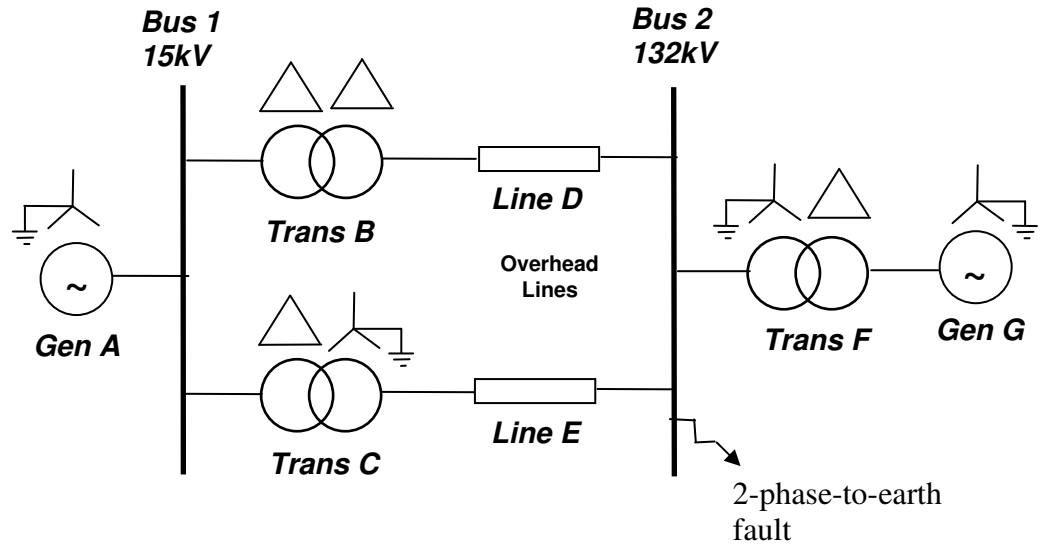

Figure 4.1 Line diagram of power system
- (i) Determine the power-load angle equation for the system and the load angle of the generator. (3)
- (ii) When a 3-phase short-circuit occurs at the middle of one of the overhead transmission lines, between  $P$  and  $Q$ , the effective system reactance becomes  $j1.2$ pu. Determine the power-load angle equation for the system under fault conditions. (1)
- (iii) The short-circuit is then cleared by the simultaneous opening of the circuit breakers,  $P$  and  $Q$  at each end of the faulted line. Determine the new power-load angle equation for the system. (1)
- (iv) Sketch the power transfer curves for before, during, and after the fault. Mark on the sketch the accelerating area, decelerating area, and the critical clearance angle. (4)
- (v) By deriving an analytical expression or otherwise, determine the critical load angle at which the fault must be cleared in order to ensure system stability. (5)
- c. Explain briefly how the transient stability of the power system could be improved. (2)
4. Figure 4.1 shows a single line diagram of a power system in which both the generators operate at rated voltage. Generator A is directly connected to a 15kV busbar, *Bus 1*, which supplies a pair of overhead transmission lines, *D* and *E*, through step-up transformers *B* and *C* respectively. The other ends of the overhead lines are connected to a 132kV busbar, *Bus 2*, which is also supplied by Generator *G* through a step-up transformer, *F*. All star points in the system are solidly earthed.
- Calculate all the per-unit reactances of the system using a reference base of 30MVA. (4)
- Draw the positive, negative and zero sequence diagrams for the system and calculate the equivalent positive, negative and zero sequence reactances. (7)
- Determine the total fault current, and the line to line voltages at the fault, when a double phase-to-earth fault occurs on phases *B* and *C* at the 132kV busbar, *Bus 2*, as shown in Figure 4.1. (8)
- If the star point of Generator A was connected to ground through an earthing reactor (instead of being solidly earthed), comment on the effect this would have on the level of fault current for the system and type of fault shown in Figure 4.1. (1)